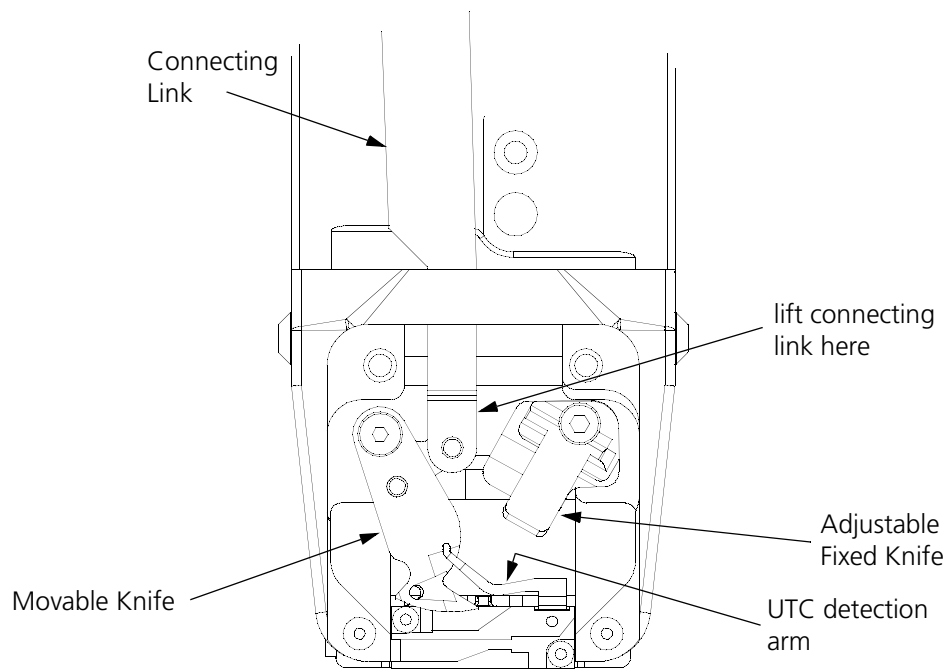

Figure 4-30
- Refer to Figure 4-30 and lift the connecting link off of the movable knife assembly.